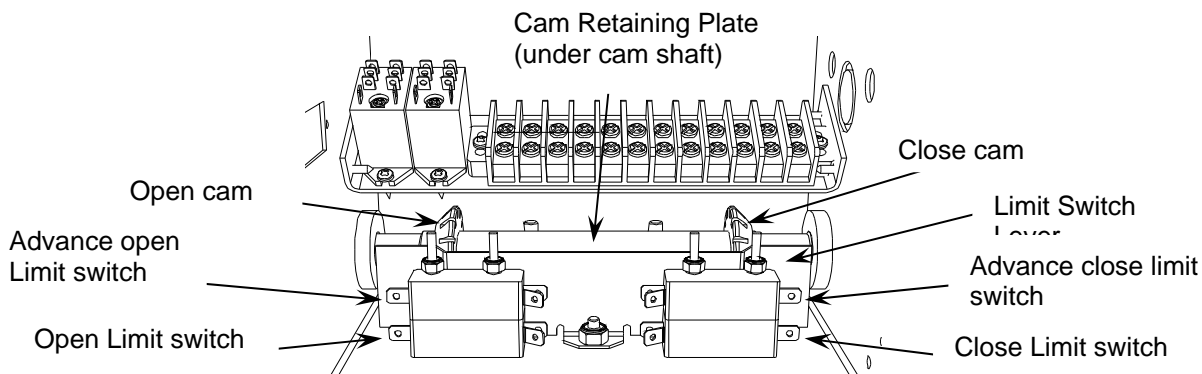

Figure 26 Limit switches
- There are 4 limit switches. Two are used as end of travel, one is for radio-control or one-button operation and one is for reversing devices. These switches are activated by the rotary cams travelling on a threaded shaft (Figure 26)